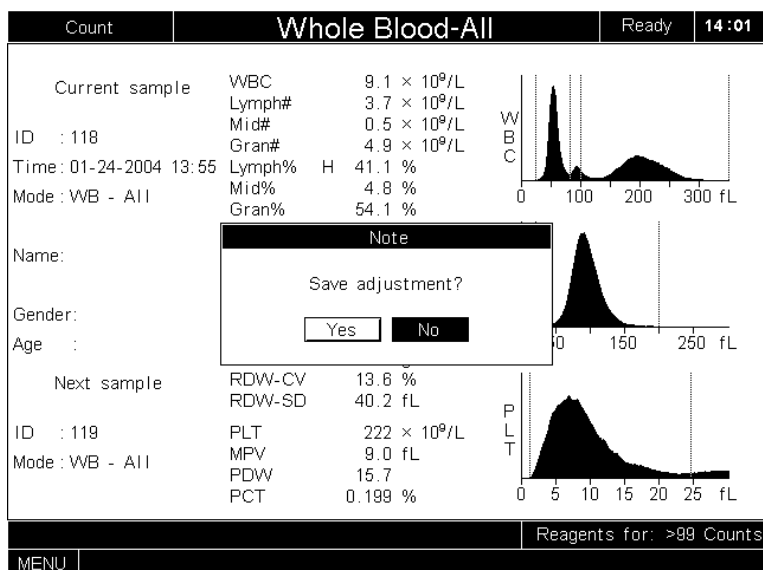

Figure3-15 Saving changes
5. Press [ENTER] to finish the adjustment and a dialog box will pop up to remind you to save the adjustment, as Figure3-15 shows.